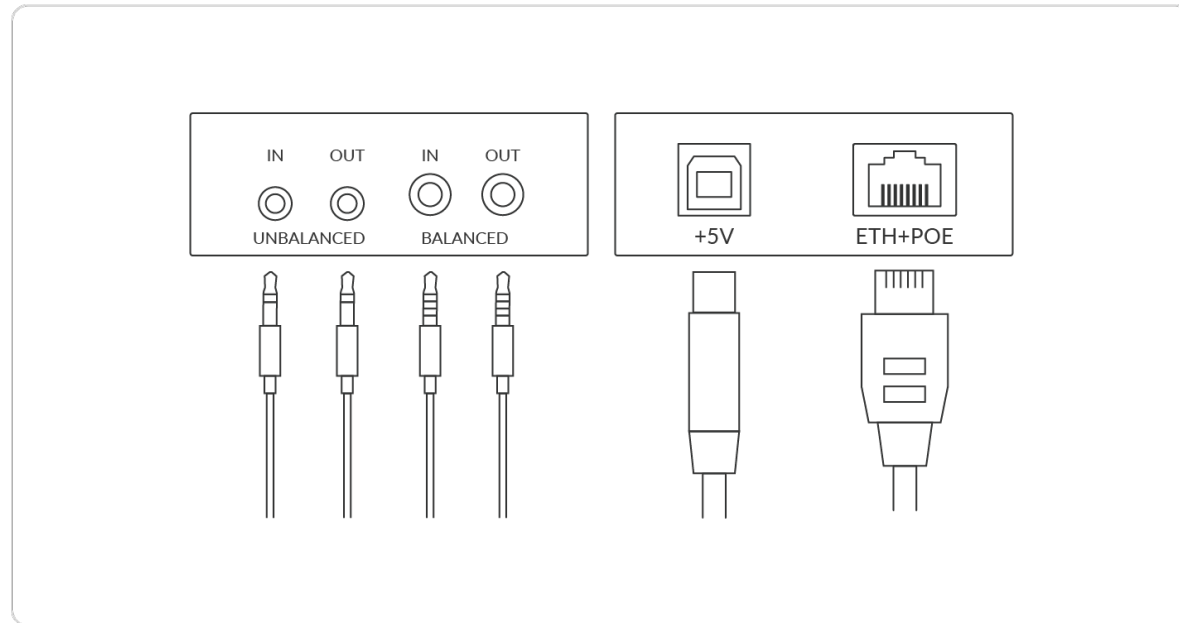

Figure1. Cable connections
1. Connect your converter via Ethernet and power it up as shown on the left Figure1 Cable connections.